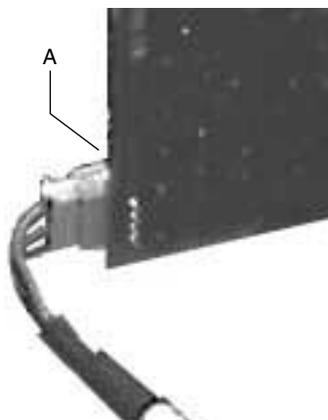

Figure 3-9 Internal Cable Attached to the ICMB Card
4. Attach the internal cable to the internal connector on the ICMB card. The internal cable connection to the card is noted by "A" in Figure 3-9.